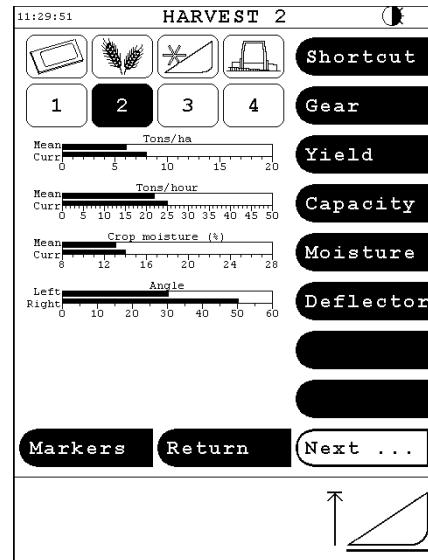
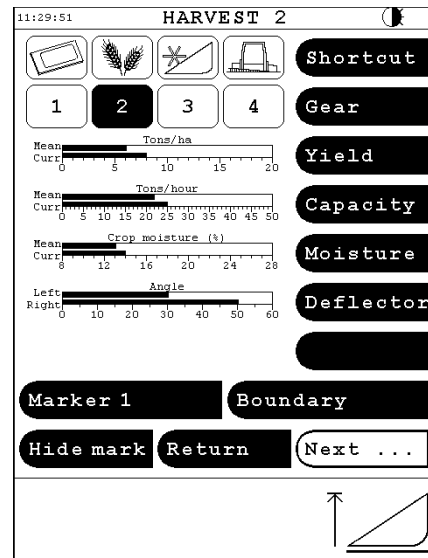

Fig. 13
Fig. 14
(Fig. 13) and (Fig. 14)
Once the function "Gear" has been called up on the Harvest menu, the various gear keys will be displayed (Fig. 13) and (Fig. 14). When a new gear range is selected, the key of the selected gear will flash until the gear change has taken place. Once the machine is in gear, the key of the selected gear will be highlighted.
- Markers (for machines with data logging with GPS, only) (Fig. 14)
Markers of various observations can be logged directly from the Harvest menu. A touch of the key "Markers" (Fig. 13) in the Harvest menu will call up the keys of the selected markers (Fig. 14), please see "Marker Setup" in section 4.6.3 'Data Logging Setup' on page 96 and section 4.6.4 'Using Markers' on page 99.